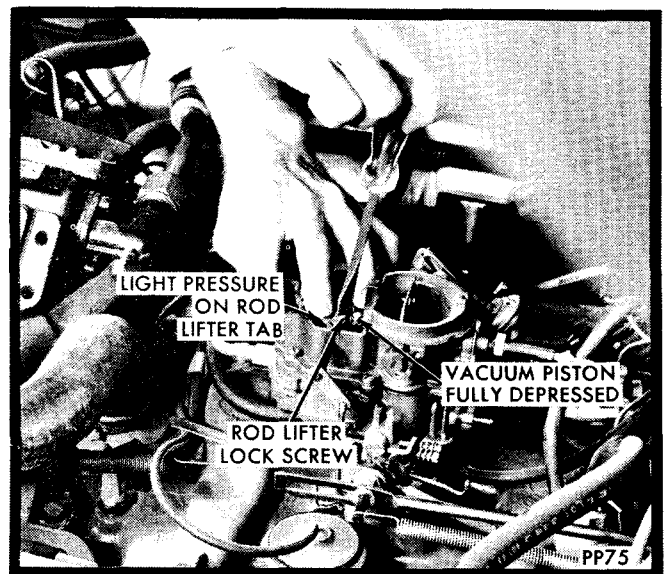

Fig. 4—Adjusting Step-Up Piston Assembly
(19) Back off idle adjustment screw until throttle valves are completely closed. Count the number of turns so that screw can be returned to its original position.
(20) Fully depress step-up piston while holding light pressure on metering rod lifter tab and tighten lock screw (Fig. 4).
(21) Install step-up piston cover plate and gasket.
(22) Return idle adjustment screw to its original position.
(23) Install fast idle cam link and retaining clip.
(24) Install accelerator pump arm link and retaining clip.
(25) Connect vacuum kick and idle enrichment diaphragm hoses.
(26) Install choke assembly.
(27) Install air cleaner mounting bolt assembly.
(28) Install air cleaner gasket and air cleaner.
(29) Check idle speed with tachometer. If adjustment is necessary refer to Emission Control Information Label in engine compartment for proper procedure and specifications.